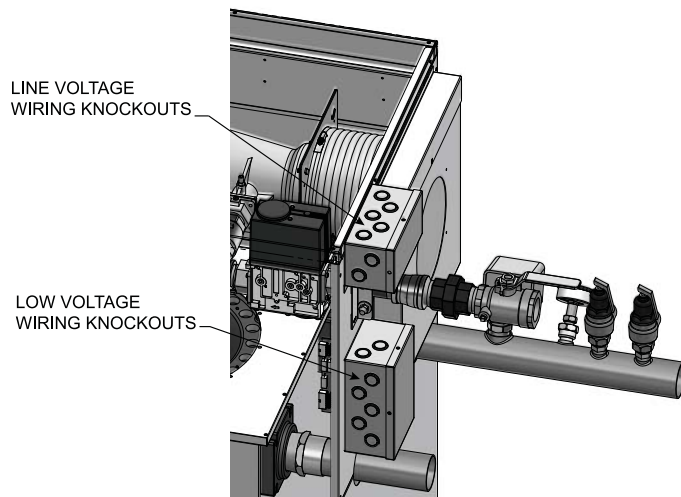

Figure 5-2 Routing Field Wiring
1. Route all low voltage wires through the knockouts in the rear of the heater, as shown in FIG. 5-2.